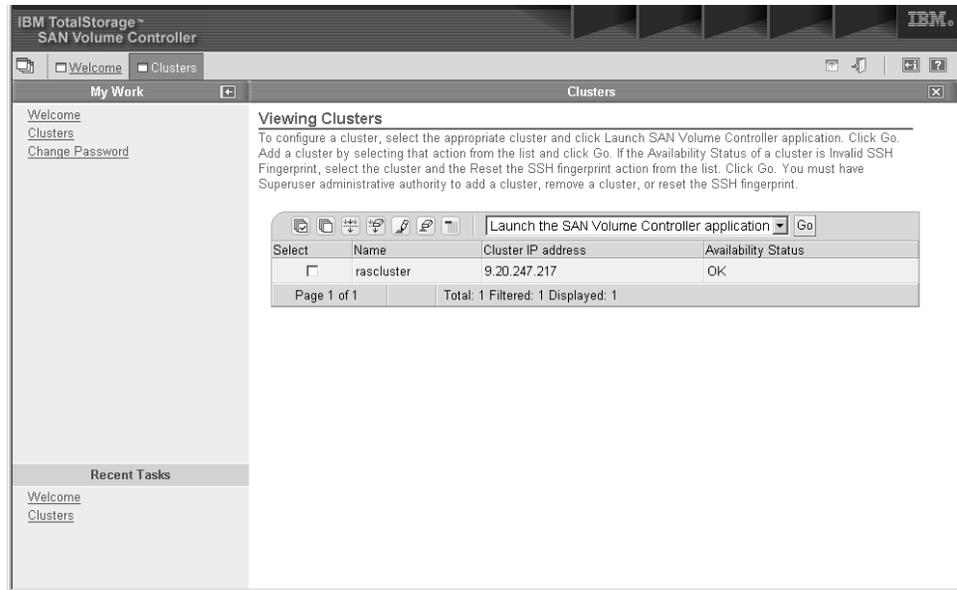

Figure 21. SAN Volume Controller view cluster panel
3. To access the configuration and service tools that you need, select Clusters from the left navigation menu, then click Go to see what is displayed in Figure 21 on page 5.